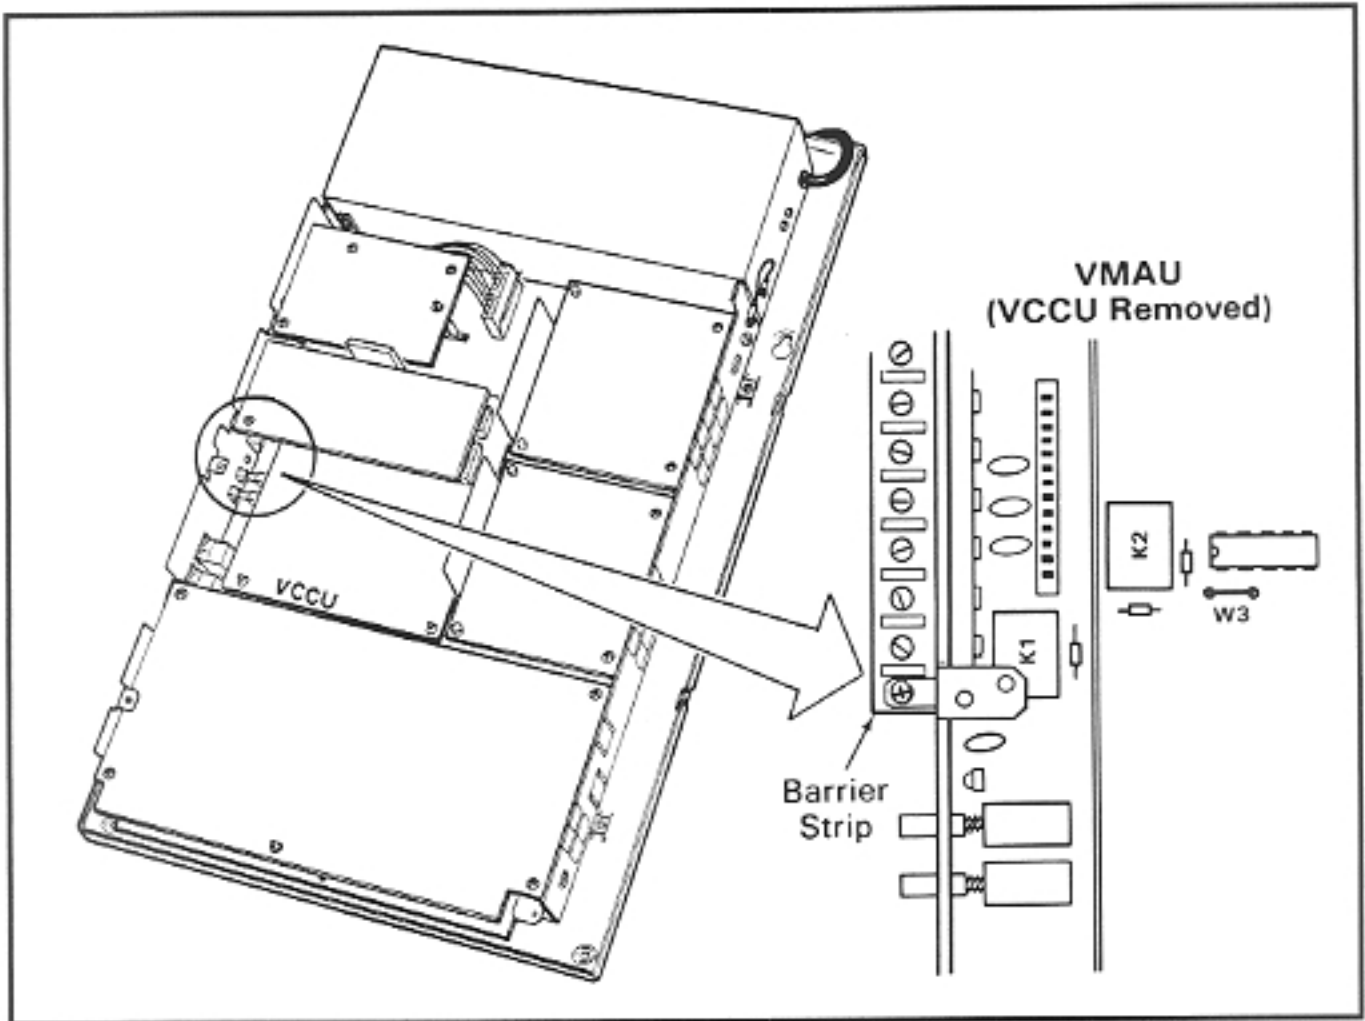

FIGURE 52—NIGHT RELAY STRAPPING
10.83 The W3 strap option on the VMAU (see Figure 52) allows the NR relay to function in one of two modes: